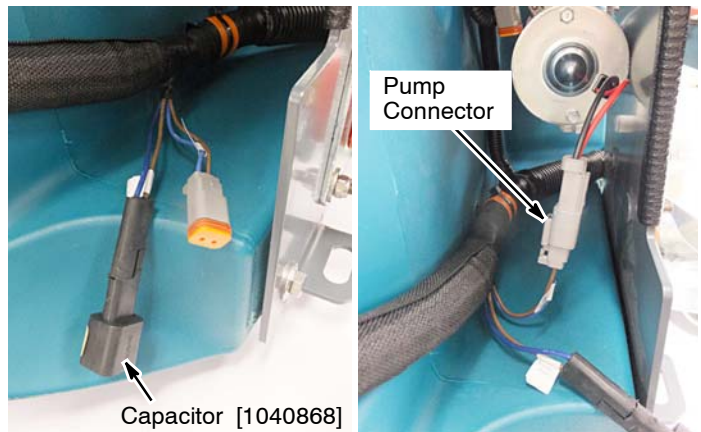

Fig. 29
7. Connect the pump connector to the ec-H2O pump. Plug the capacitor into the machine harness as shown (Figure 29). Secure wire connections with cable-tie.